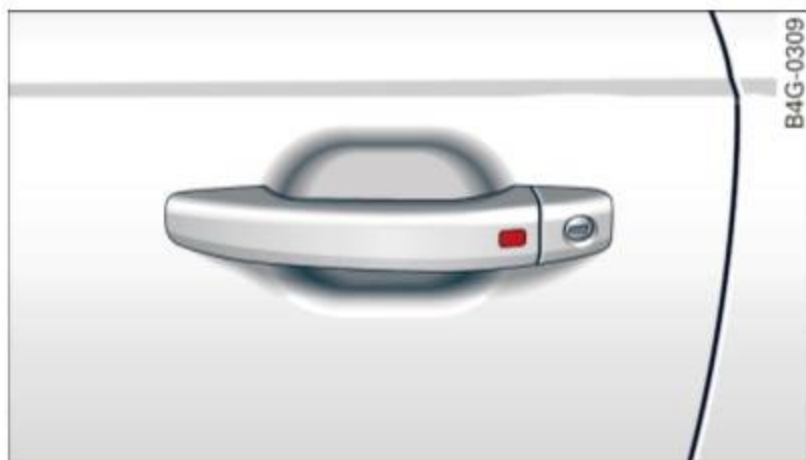

Fig. 23 Door handle: locking the vehicle
- ▶ To lock the vehicle, close the door and touch the sensor in the door handle **once** ⇒ *fig. 23* ⇒ ⚠ in *General description on page 32*. Do not reach inside the door handle.